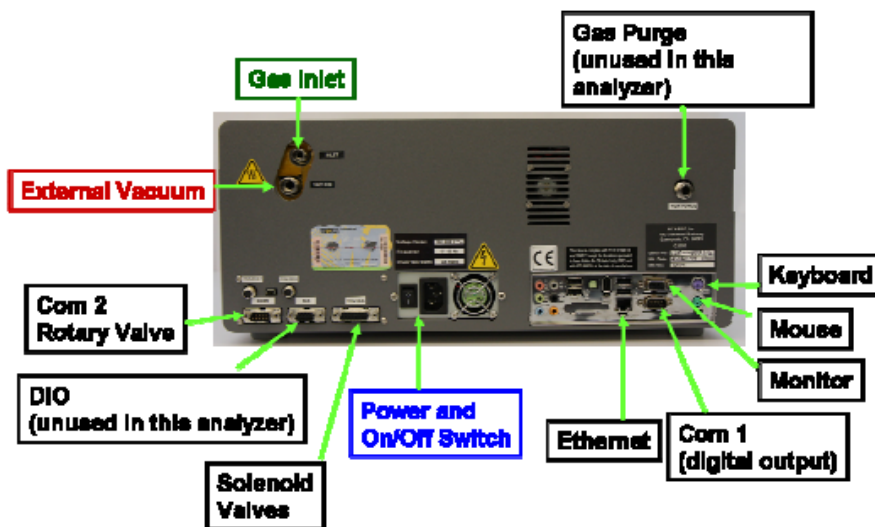

Figure 1. Back of Analyzer.
- Attach the gas line between the Analyzer vacuum port and the External Vacuum Pump. See Figure 1. Hand tighten the nut, then make an additional 1/4th turn with an 11/16” wrench.
- Connect the computer monitor, keyboard, and mouse as shown in Figure 1.
- 2.4.2 The solenoid valve connects to the instrument via a 15-pin connector located on the back of the instrument. There are six pairs of wires with connectors labeled V1, V2...V6 with 2-pin female Molex connectors for connection to the solenoid valve as shown in Figure 1.